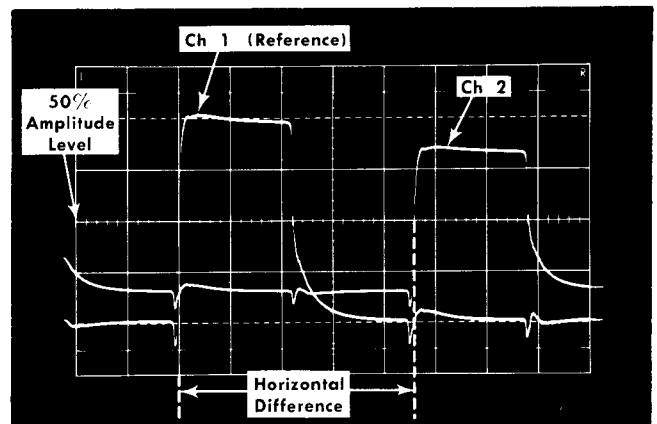

Fig. 3-3. Measuring the time difference between two pulses.
11. Measure the horizontal difference between the Channel 1 waveform and the Channel 2 waveform (see Fig. 3-3).
Example. Assume that the Time/Cm switch is set to 0.2 μSec , the Sweep Magnifier switch is set to $\times 10$ and the horizontal difference between waveforms is 4.6 cm (see Fig. 3-3).
If desired, each measurement can be made using the Time-Difference method as shown in Fig. 3-3. By setting the SIGNAL & TRIGGER SOURCE switch